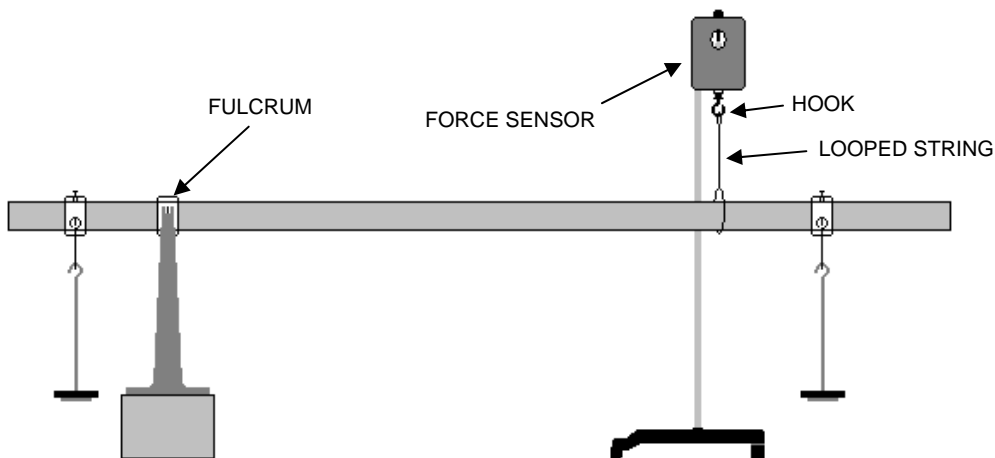

FIGURE 8 - Lab Setup for Tension
**C)** On the table there is a piece of string with one end tied in a big loop and the other in a small loop. Slide the big loop around the ruler until it is at 70 cm. Have the small loop hang on the hook on the Force Sensor which is hanging from a stand. Adjust the height of the Force Sensor until the meter stick is horizontal. See **Figure 8**.